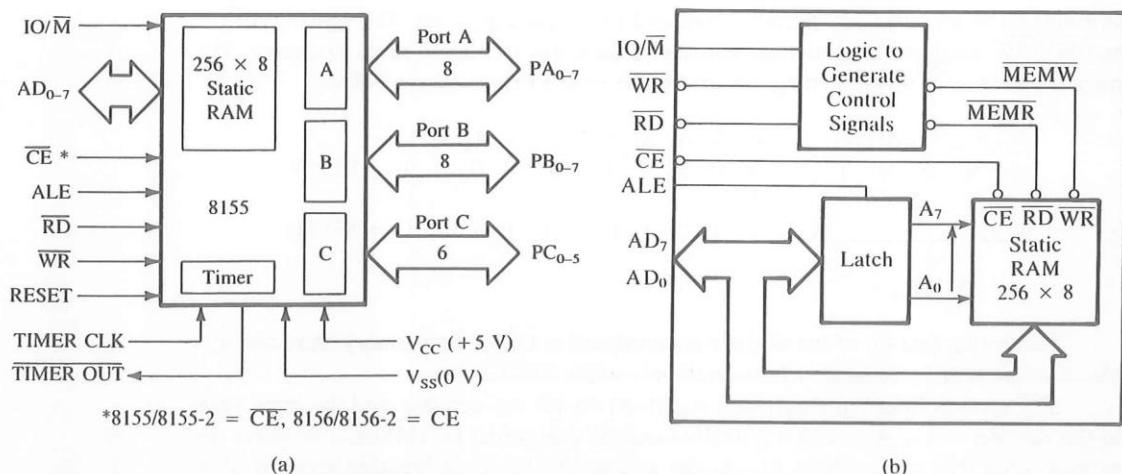

FIGURE 4.18
Figure 4.18(a) shows the block diagram of the 8155 memory section. It has eight address lines, one CE (Chip Enable) line, and five lines compatible with the control and status signals of the 8085: IO/M, ALE, RD, WR, and RESET. These control and status lines are not found in the general-purpose memory devices shown in the previous section. These lines eliminate the need for external demultiplexing of the bus AD₇–AD₀ and for generating separate control signals for memory and I/O.
Figure 4.18(b) also shows the internal structure of the 8155 memory section. The memory section includes 256 × 8 memory locations and an internal latch to demultiplex the bus lines AD₇–AD₀. The memory section also requires a Chip Enable (CE) signal and the Memory Write (MEMW) and Memory Read (MEMR) control signals, generated internally by combining the IO/M, WR, and RD signals.